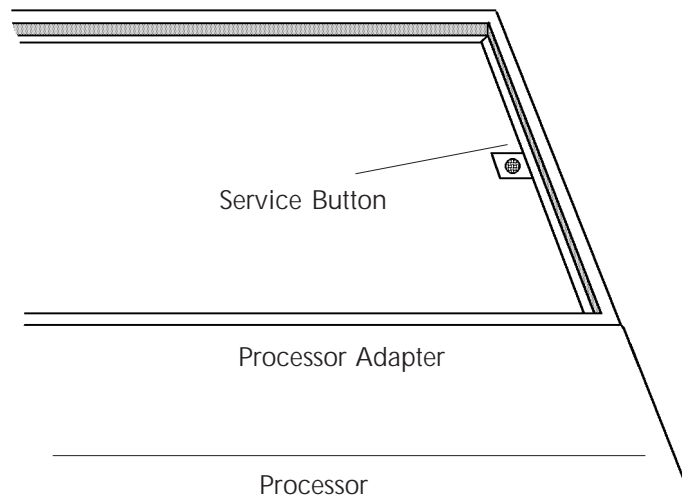

figure 3
2. Press the **Service Button** inside the Side-By-Side Kit (fig. 3).